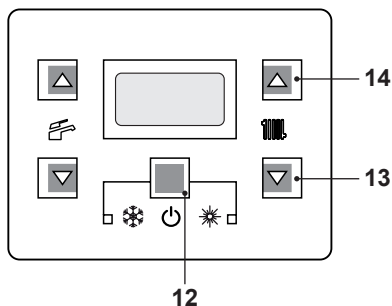
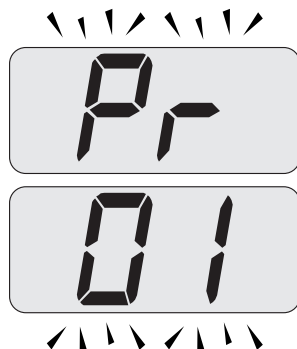
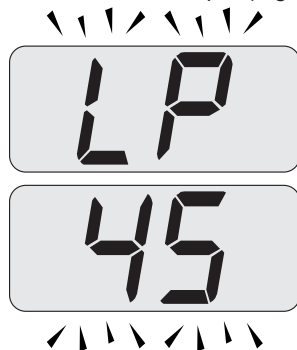

Fig. 10.17
Fig. 10.18
Fig. 10.19
- Enter in "programming mode" by sequentially pressing and holding in keys, 12 - 13 and then 14 (Fig. 10.17) for 10 seconds until the letters **Pr** that alternate with code **01** are displayed on the LCD display, indicating that "parameter 01" (Fig. 10.18) has been activated.
- Press keys 13 and 14 (Fig. 10.17) at the same time until the LCD display displays the letters **LP** that alternate with the heating water temperature value (e.g. **45**), indicating the activation of the "flue sweep function" at minimum output (Fig. 10.19).
- By pressing 14 (Fig. 10.17) it is possible to change power in flue sweep mode: with the letters **hP** on the LCD display which alternate between the heated water temperature (i.e. **32**), we are in the "flue sweep function" at the minimum power during heating (Fig. 10.20).
- Press sequentially keys, 12 - 13 and then 14 (Fig. 10.17) and hold in for 10 seconds to exit the "flue sweep mode" and return to the previously set boiler status (Fig. 10.22).